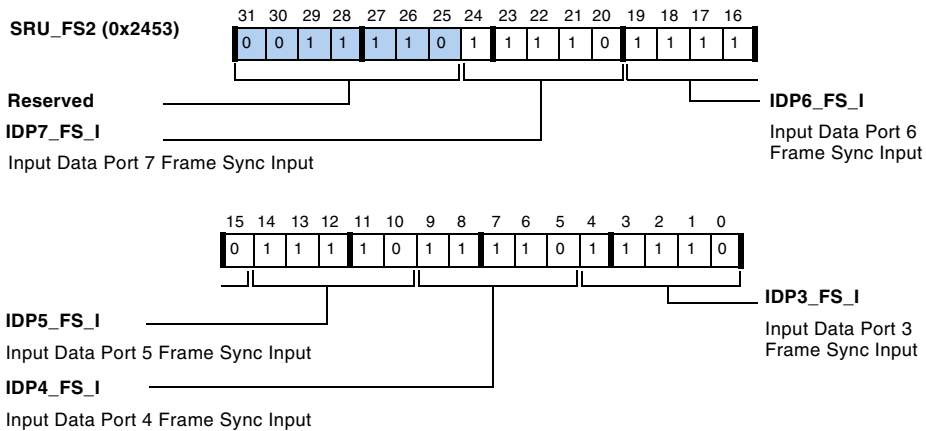

Figure A-45. SRU\_FS2 Register
- SRU\_FS2, described in Figure A-45